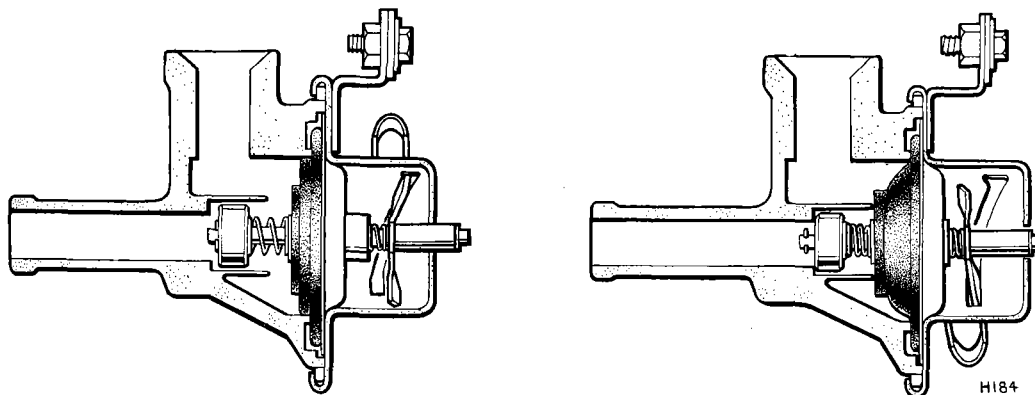

Fig. 120 Water control valve operation (Smiths)
Drain the cooling system. Disconnect the hose and temperature control cable (5) from the water valve (26) and remove the two nuts and serrated washers retaining the water valve to the body of the heater. Remove the valve from the studs ensuring that the sealing rubber ring is not misplaced. Refer to Fig. 120 for the operation of the water control valve.